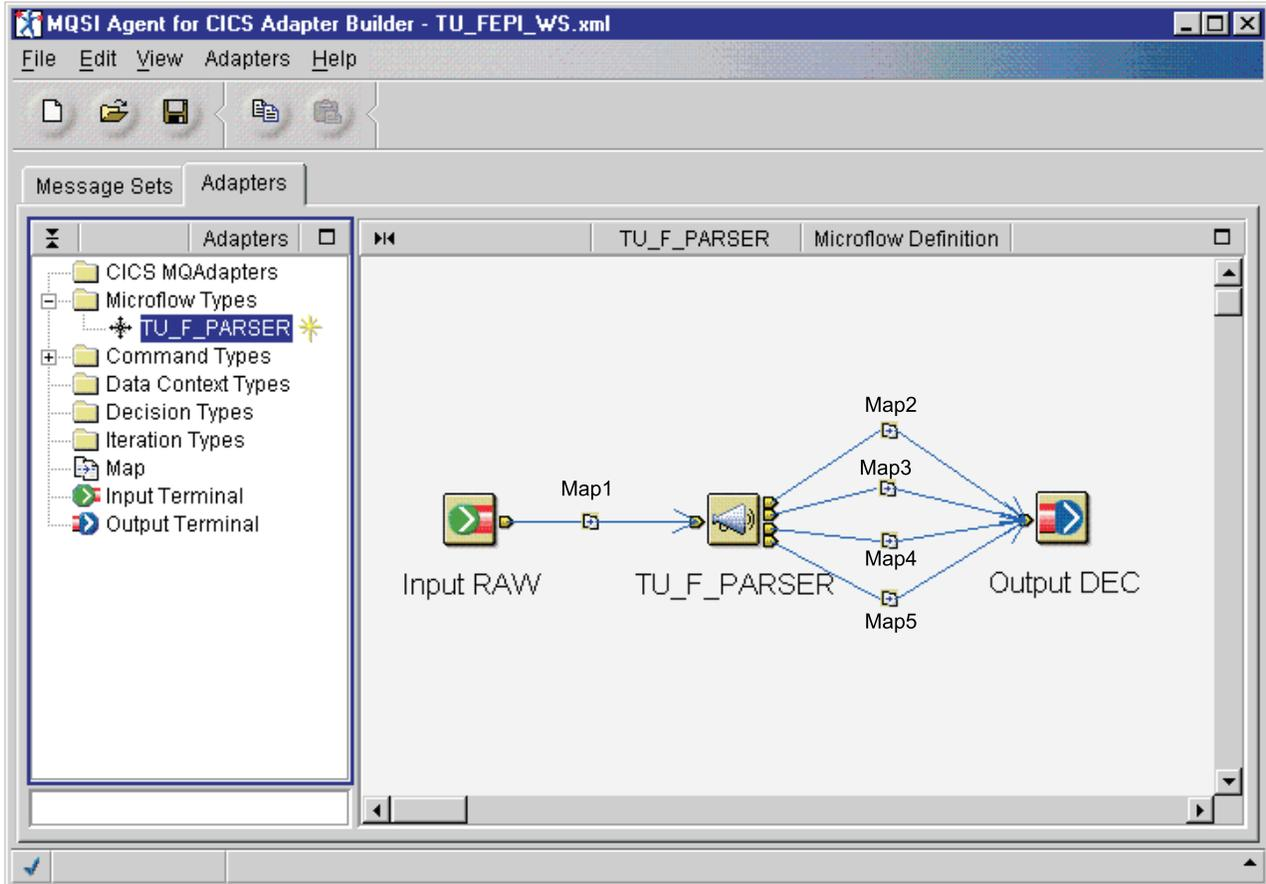

Figure 107. TU\_F\_PARSER
The subflow processing identifies which screen the user is on and sets a switch. Construct the Parser subflow by adding the nodes as shown in Figure 107 on page 144.
- 2) Add a control connection from the first out terminal (TU\_F\_SIGNON\_SCR\_screen) on the TU\_F\_PARSER node to the Output DEC node. This auto-adds a Map2 node on the control connection line. Refer to Figure 107 on page 144 (the Map node labeling has been added to the figure).